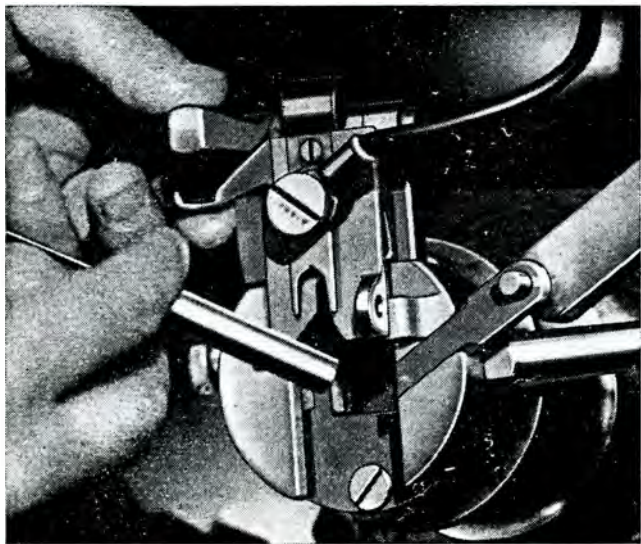

Figure 10. Inserting the primer, close-up view.
(3) After the primer has been inserted (fig. 10), lower the slide until the slide catch engages in the notch of the housing. *Be sure the slide is entirely down before attempting to fire the piece, otherwise the primer may be blown to the rear and endanger members of the gun squad.*